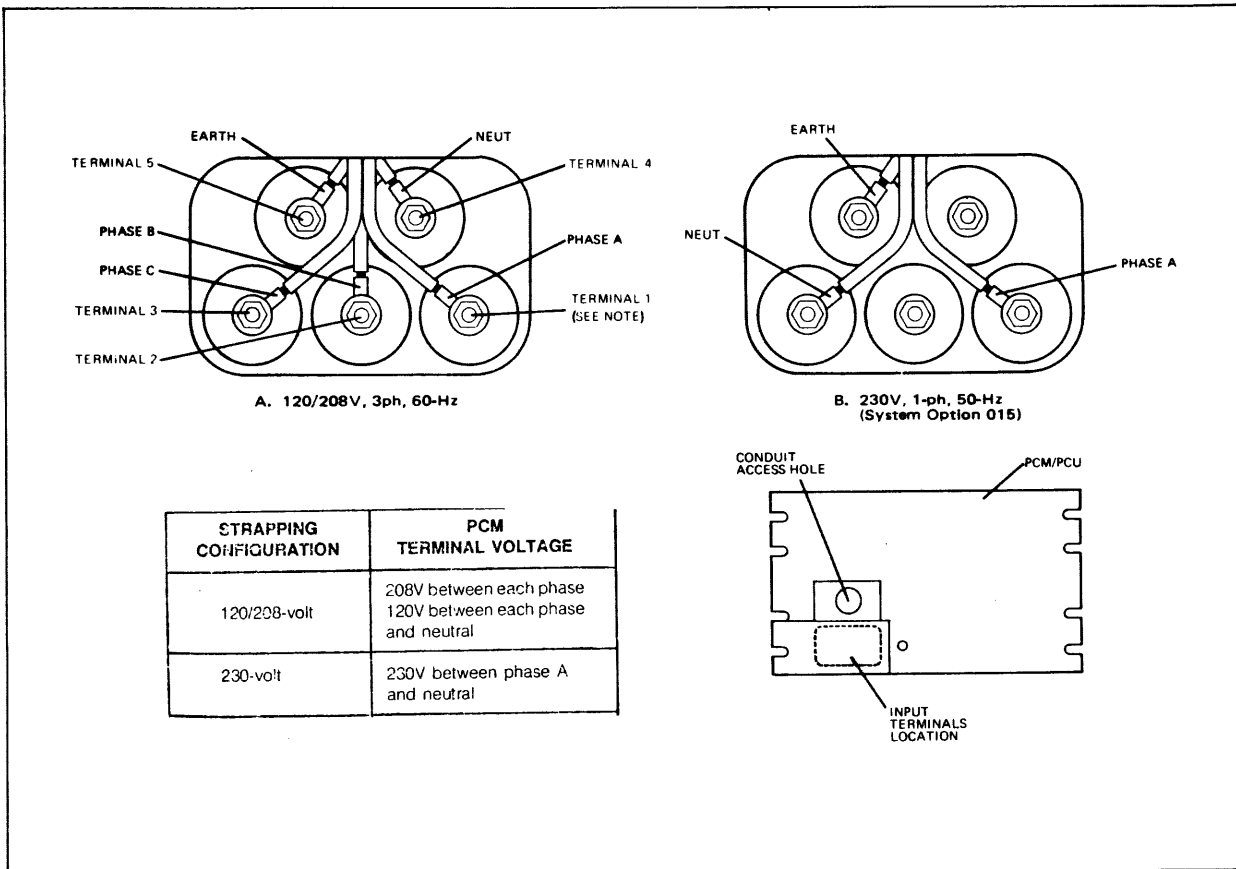

Figure 2-9. PCU/PCM Line Filter Connections
3. Have an electrician perform this step: Connect primary AC power cable wires to the PCU line filter terminals as shown in figure 2-9, then replace the panels removed in step 1 above.
3. Have an electrician perform this step: Connect primary AC power cable wires to the PCM line filter terminals as shown within figure 2-9.
6. Use a suitable voltmeter to check voltages at each of the PCM line filter terminals for correct value, as listed within figure 2-9.